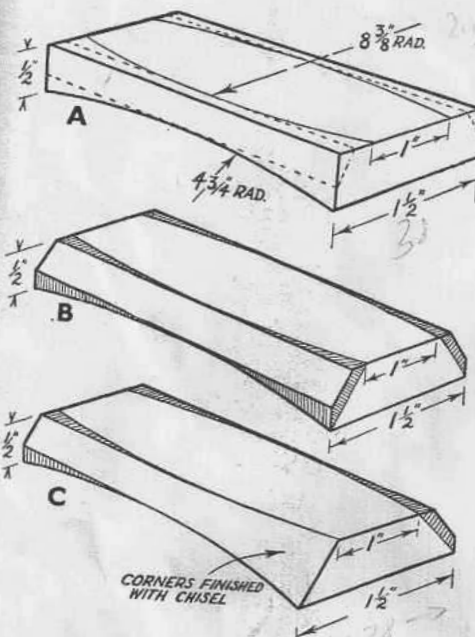
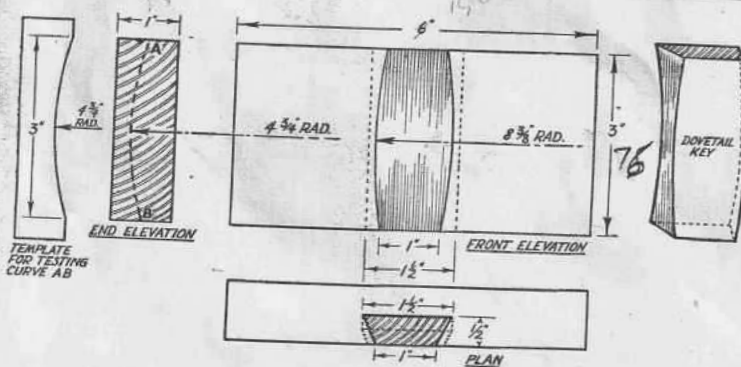

FIG. 2. STAGES IN MAKING THE KEY PIECE
FIG. 3. DIMENSIONAL DETAILS OF PUZZLE
Fig. 3 gives the dimensional details, and it is important that the radii of the curves be accurate. Make the dovetail key piece first, following the method shown in Fig. 2, from a piece 3 in. by 1 1/2 in. by 1/2 in. as at (A). The curves are marked out, but only the bottom curve is worked at this stage. The top corners are next planed off as at B, and the key completed by working the four end corners to their final shape as at (C). This can be done either by chiselling or with a finely set spokeshave.
The groove to take the key must be worked carefully, and the curved bottom should be frequently tested with a template (Fig. 3). The key should also be tried frequently in position, aiming at a fairly tight fit throughout. If the key does not fit tightly, the secret of the puzzle is soon discovered. (435)